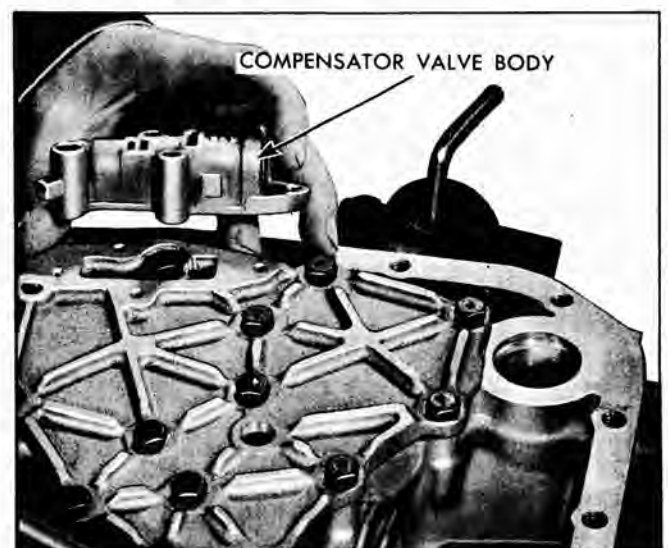

Fig. 41 Removing Compensator Valve Body
11. Remove the compensator valve body assembly (Fig. 41). PA compensator body (not shown) is larger than others.